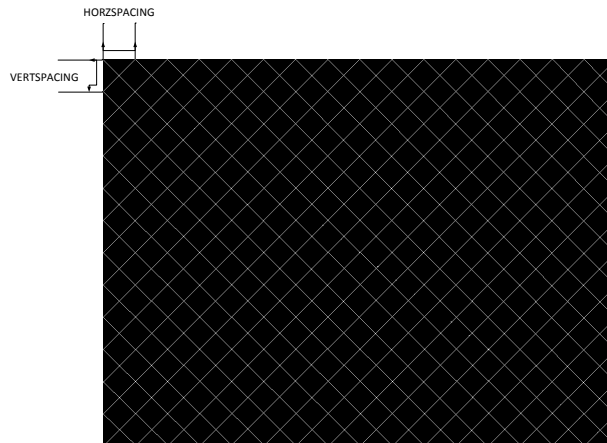

Figure 9. Example of Diagonal Lines Test Pattern
12. As noted in Table 4, the colors for the diagonal lines pattern are specified using both the foreground and background colors. The foreground color is used for the diagonal lines, and the background color is used for the space between the lines. As noted in Table 5, the user specifies the horizontal and vertical line spacing. The line width is always one pixel. The user determines the line spacing for each resolution display. Both horizontal and vertical line spacing must use the same value, and are limited to values of 3, 7, 15, 31, 63, 127, and 255. Invalid values result in a communication error (invalid command parameter). An example of a diagonal lines pattern is shown in Figure 9.